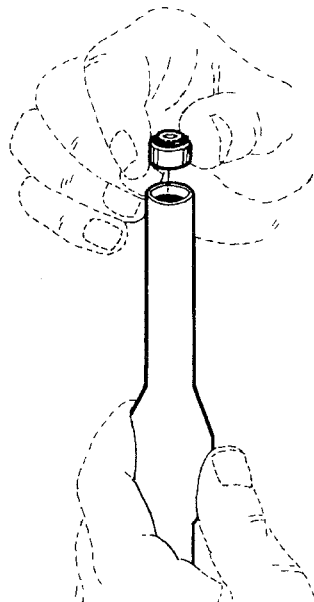

FIG. 4
1. Introduce the exhaust button stem (119) in the inflator body (46), up to coupling.
2. Position the O-Ring (50) on the exhaust O-Ring bushing (49).
3. Insert the bushing on special tool (code 106190). (Fig. 4)